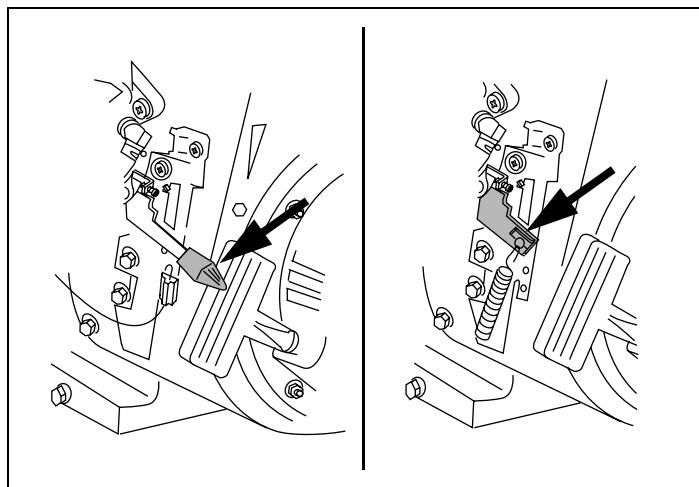

Figure 20. Engine Mounted Speed Controls
- b. Move Choke Control to "1/2 CHOKE" position until engine runs smoothly. See Figures 20 thru 22.
- a. *Momentarily move Choke Control back to "FULL CHOKE" position.* See Figures 20 thru 22.